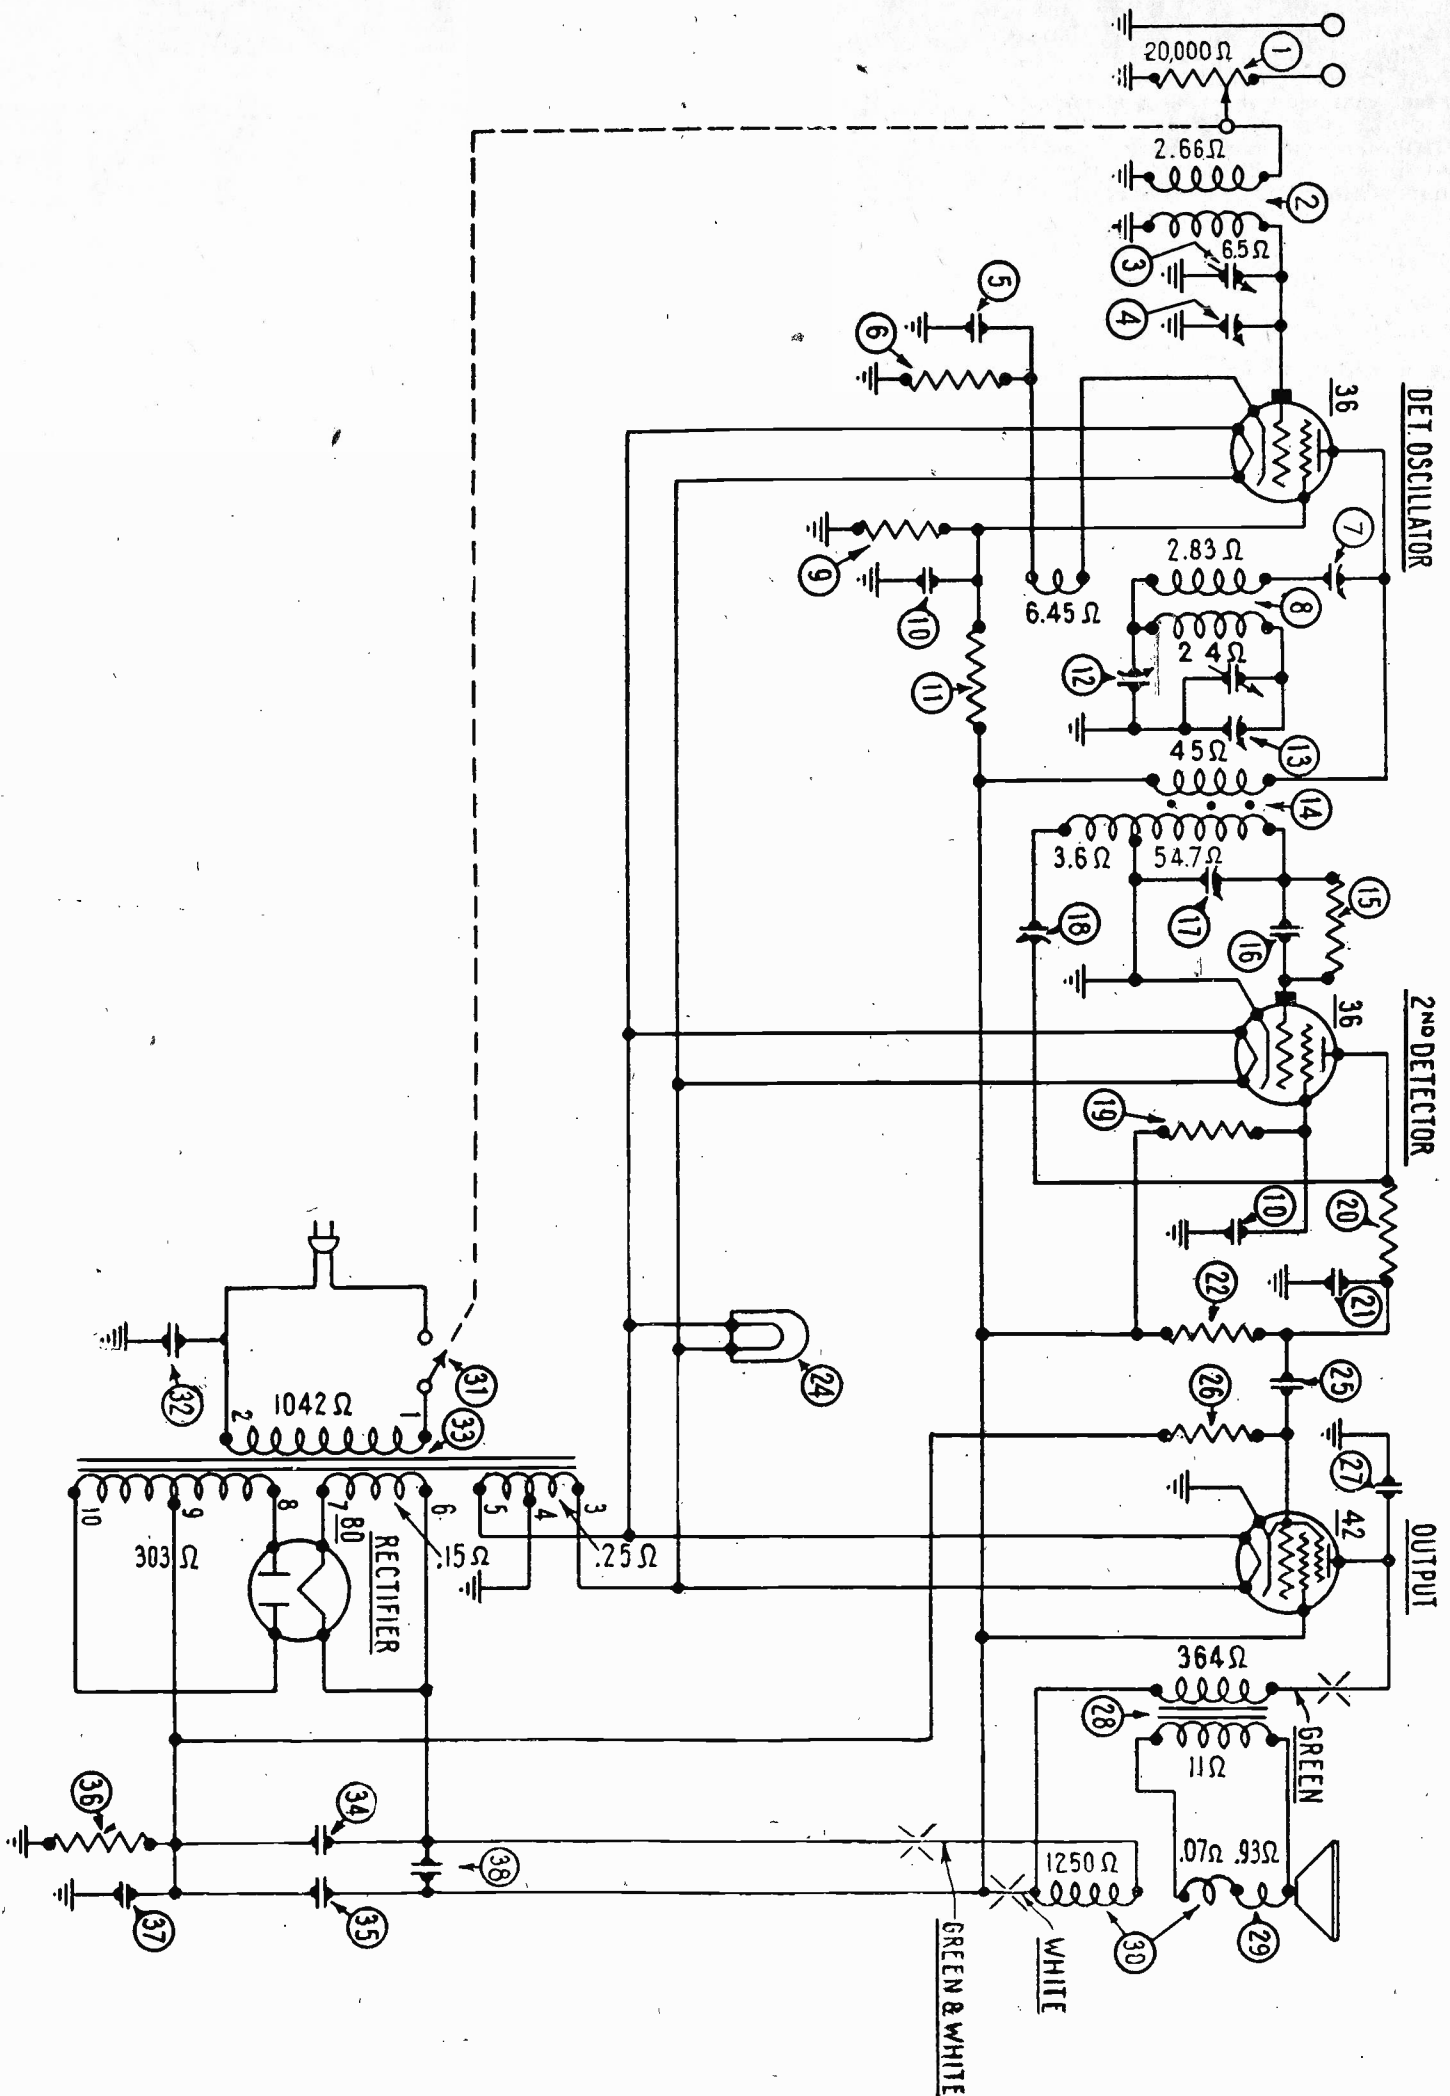
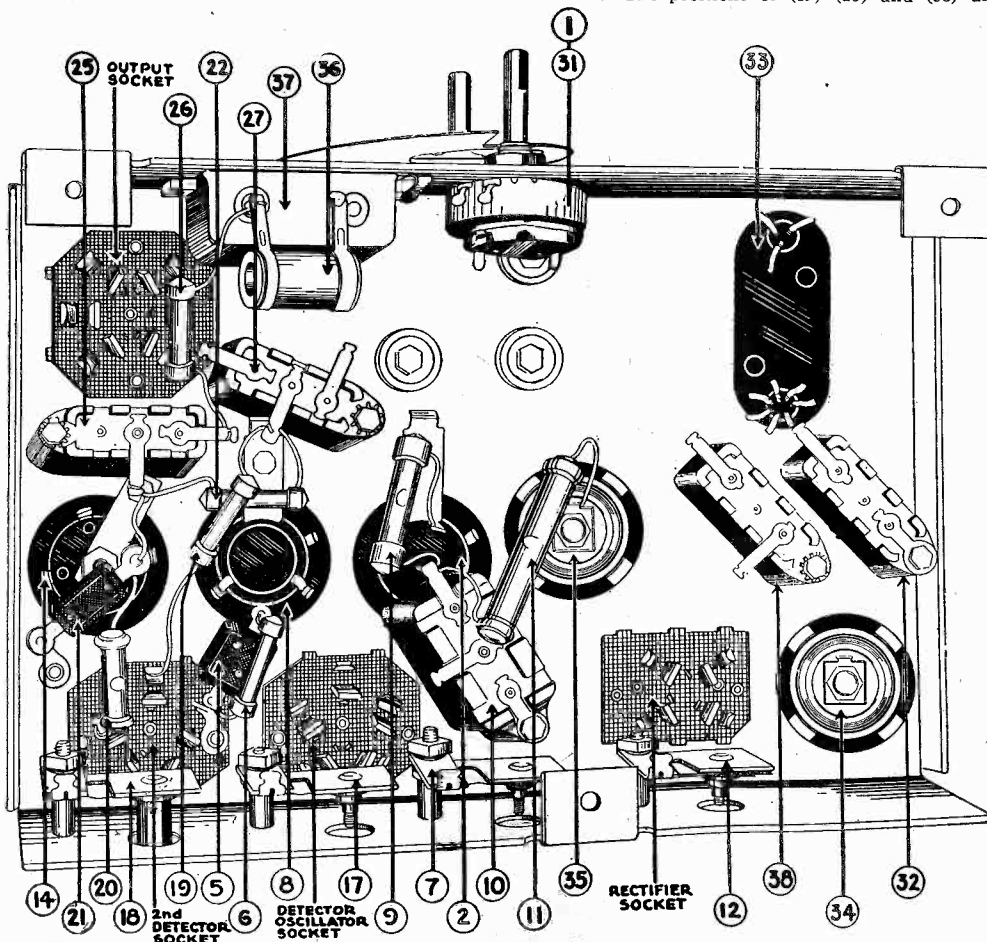

Fig. 2—Schematic Wiring Diagram
Fig. 3—Bottom View of Chassis, Showing Parts
* A number of circuit changes were made on chassis of run No. 5 and above. This run number is rubber stamped in a star on the back of the chassis. Referring to Figs. 2 and 3, the condenser (27) connects to the B- end of resistor (26) instead of to ground. The bucking coil—that section of (30) in series with the voice coil—is shorted out. The 10 mfd. dry electrolytic condenser (37) is eliminated, and replaced with a substitute .015 section combined with (32), part 3793R. The .01 mfd. condenser (38) is eliminated. The positions of (19) (26) and (36) are changed in the chassis from that shown in Fig. 3.